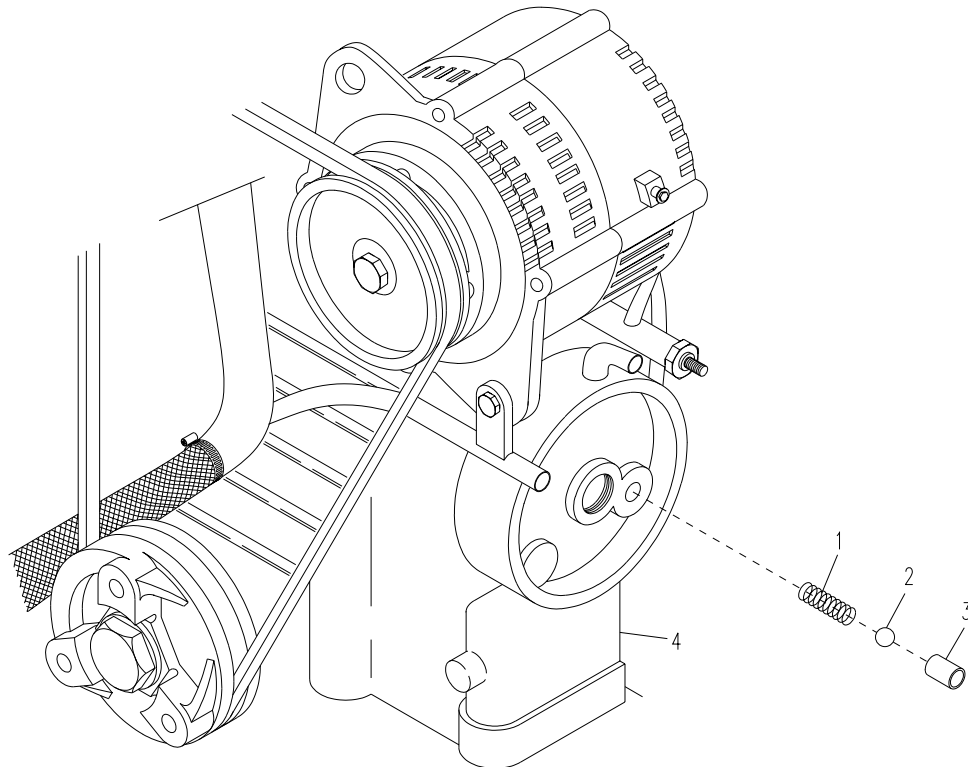

Figure 5-4. Relief Valve
- a. Remove valve seat (3, Figure 5-4), ball (2), and spring (1) from engine block (4).
- b. Install new spring (1), ball (2), and valve seat (3) in engine block (4).